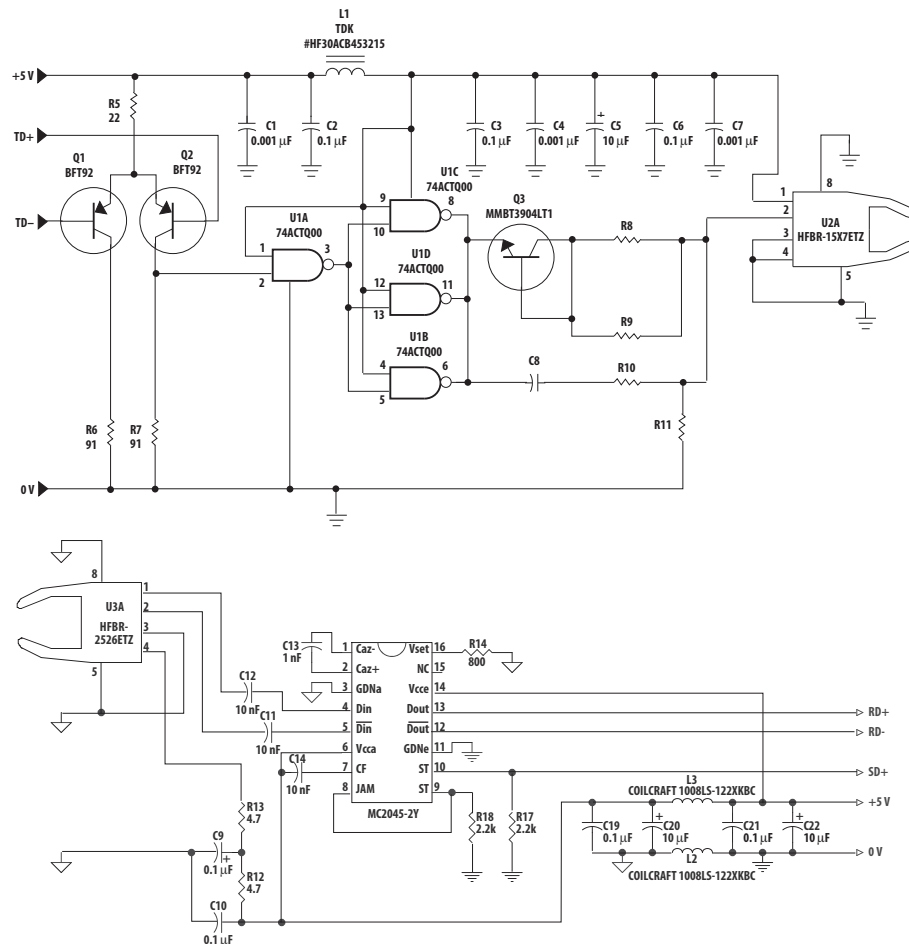

Figure 1. Transmitter and receiver application circuit with +5 V ECL inputs and outputs.
Data link operating conditions and performance are specified for the HFBR-1527ETZ transmitter and HFBR-2526ETZ receiver in the recommended applications circuits shown in Figure 1. This circuit has been optimized for 125 MBd operation. For other data rate application, please refer to application notes: AN1121, AN1122 and AN1123.
### Recommended Operating Conditions for the Circuits in Figures 1 and 2
1. If the output of U4C in Figure 1, page 4 is transmitted via coaxial cable, terminate with a 50 Ω resistor to VCC - 2 V.
Performance of the HFBR-1527ETZ transmitter in the recommended application circuit (Figure 1) for POF; 1-125 MBd, 25° C.
Performance of the HFBR-1527ETZ transmitter in the recommended application circuit (Figure 1) for HCS; 1-125 MBd, 25° C.
Performance[4] of the HFBR-2526ETZ receiver in the recommended application circuit (Figure 1); 1-125 MBd, 25° C unless otherwise stated.
**Electrical/Optical Characteristics** -40 to 85° C; 5.25 V ≥ VCC ≥ 4.75 V; power supply must be filtered (see Figure 1, Note 2)
- The signal output is an emitter follower, which does not reject noise in the power supply. The power supply must be filtered as in Figure 1.